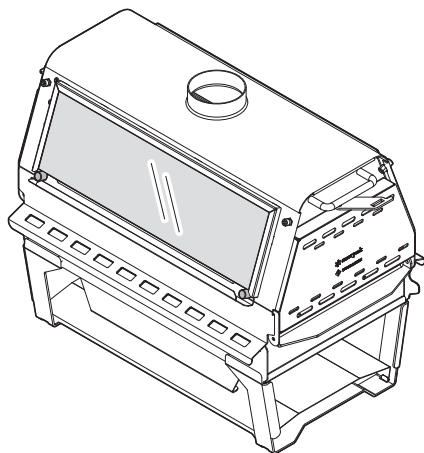

Fig. 1
① Remove the two fixing bolts, then remove the glass frame. (Fig. 1)